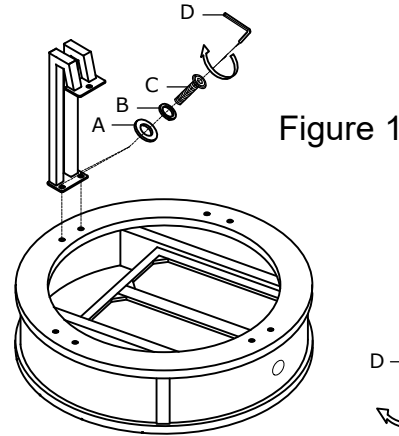

Figure 1
1. Turn the top upside down on a clean soft surface. As Shown in Figure 1.
2. Attach the three legs to the top panel using Flat Washer (A), Lock Washer (B) and Bolt (C), tighten with the Allen Wrench (D). As Shown in Figure 1. (Do not over tighten bolts during assembly.)